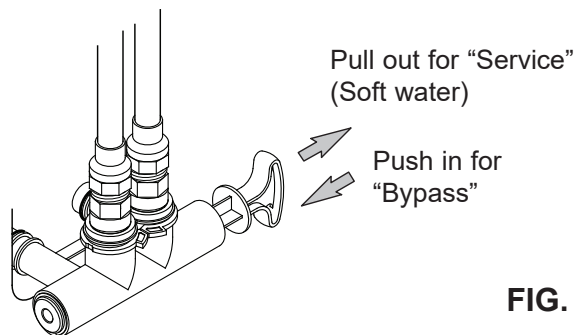

FIG. 7
Always install either a single bypass valve (provided), as shown in Figure 7, or, if desired, parts for a 3 valve bypass system (not included) can be purchased and assembled, as shown in Figure 8. Bypass valves allow you to turn off water to the softener for maintenance if needed, but still have water in house pipes.
3. Place bypass valve(s) in “bypass” position (see Figures 7 & 8). On a single valve, slide the stem inward to bypass. On a 3-valve bypass, close the inlet and outlet valves and open the bypass valve.